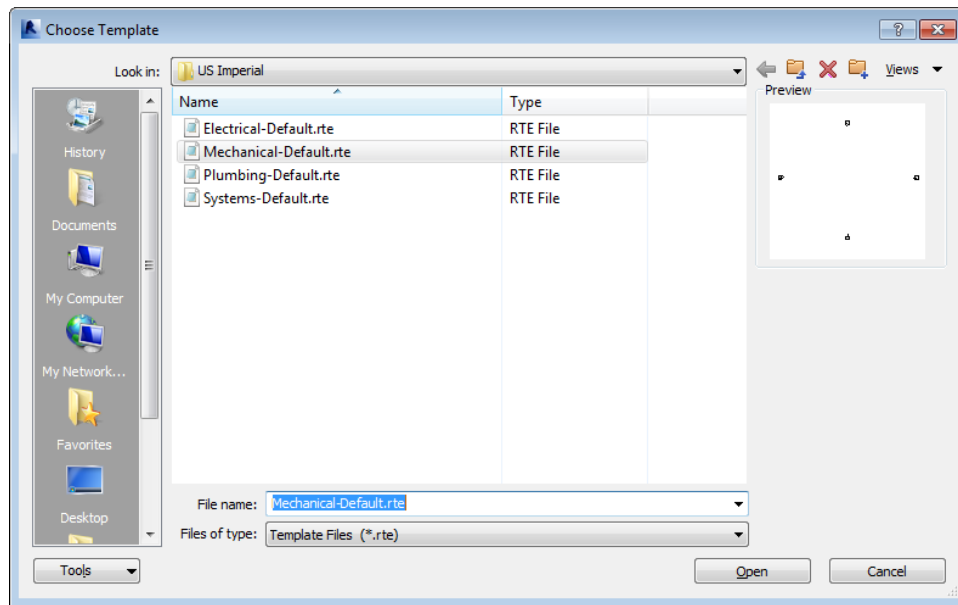

Figure 2-28 The *Choose Template* dialog box
2. In the **Choose Template** dialog box, select the **Systems-Default** template file from the list, as shown in Figure 2-28. For Metric system, select the **Systems-Default_Metric** template file from the list. Choose the **Open** button to assign the selected template file to the **New Project** dialog box.